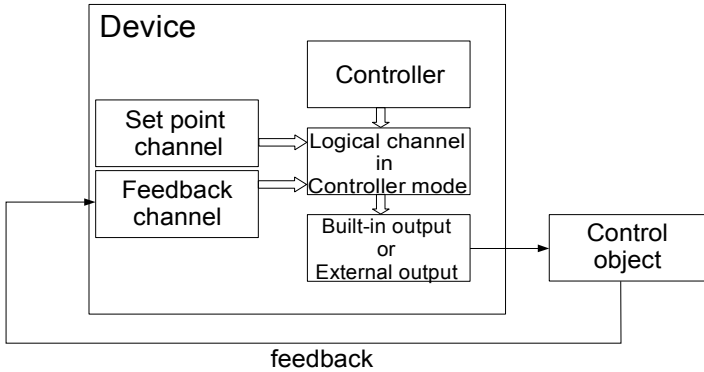
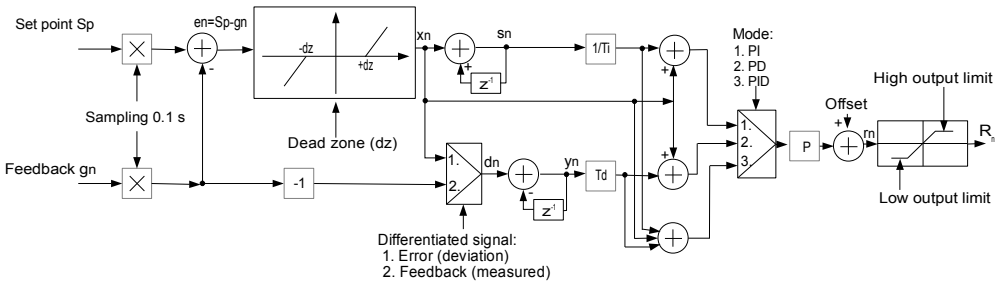
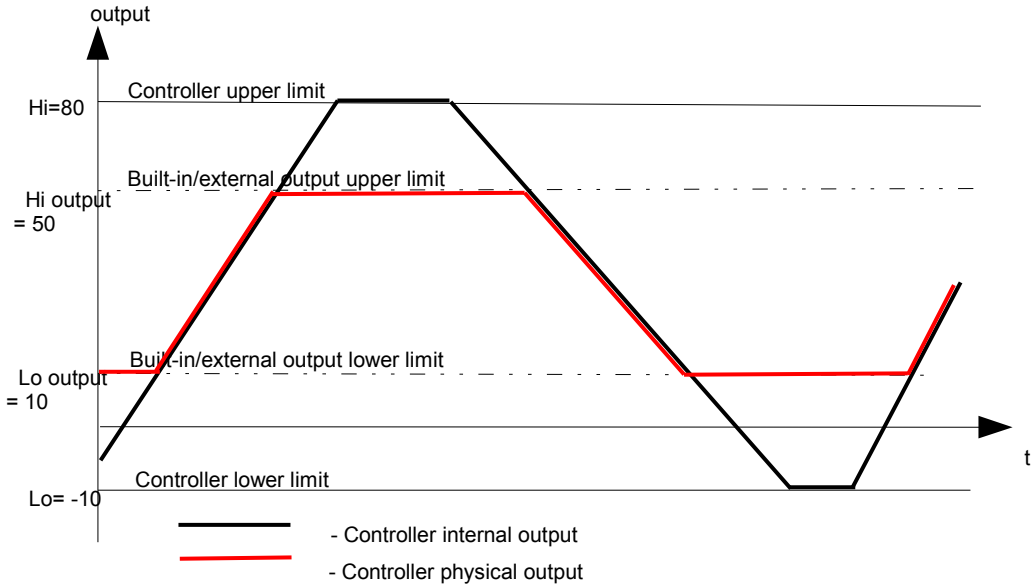

Fig. 7.120. Block diagram of the control loop of the object by MultiCon
Fig. 7.121. Block diagram of the **Controller** implemented in the device
Fig. 7.125. Control loop output limitation
- **Differentiated signal** - this parameter is available for the **PD** and **PID** mode and allows the selection of the option (see **Fig. 7.120** and **Fig. 7.121**):
Note! After offsetting the output signal the output value is limited to the range set in **Low output limit** and **High output limit** parameters (see Fig. 7.121),
Fig. 7.120 shows the block diagram of a control process of an object with the **Controller** implemented in the device. Set the setting of the selected Controller to be connected to the **Logical channel** operating in the **Controller** mode. In this **Logical channel**, select the **Set point channel** and the **Feedback channel**, which store the data required to control the object. Respectively, the **Set point channel** contains a destination value of the process,
In the **Fig. 7.125** an exemplary diagram of the output values of the control loop is presented. The diagram shows the double limitation of the control loop supplied to the object. The first limitation with a black line results from the output parameters of the Controller (logic channel output value in the controller mode, see **Fig. 7.120**), and the second limit marked with a red line results from the parameters built-in/external outputs (value transferred to controlled object, see **Fig. 7.120**).